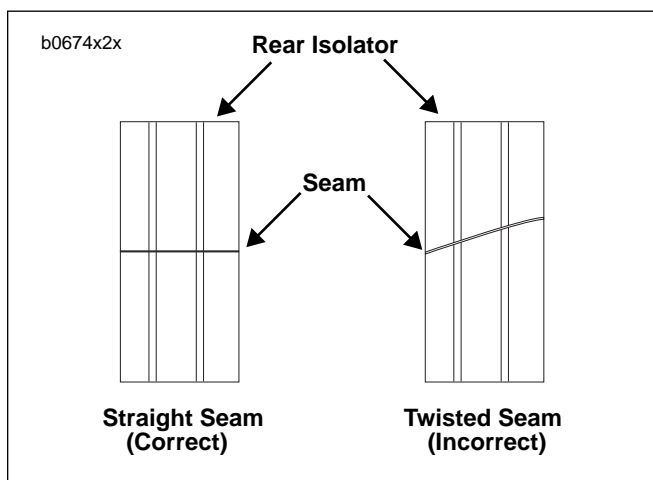

Figure 16. Isolator Alignment
- See Figure 16. Observe seam on rubber isolator after isolator bolt is tightened. If seam twists, apply more LOCTITE ANTI-SEIZE to underside of isolator bolt heads. Failure to comply will result in damage to rubber isolators.